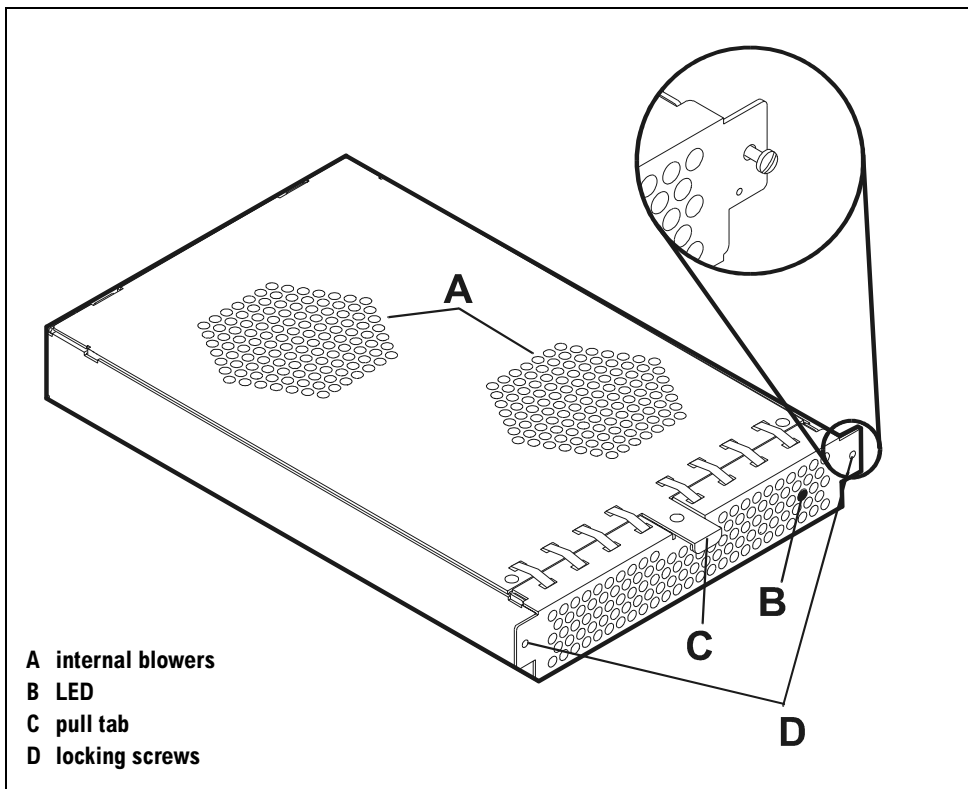

Figure 5 Fan
The fan blows cooling air over system components using two internal high-speed blowers (A in Figure 5), an LED (B), a pull tab (C), and two locking screws (D).